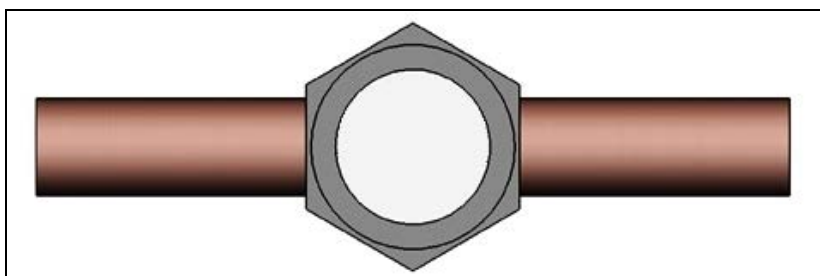

Figure 30. Clear-Inline Sight Glass
- A. **INLINE** sight glass is **CLEAR**: As illustrated in Figure 30, a clear sight glass means the refrigerant flow is liquid. Remove 1 pound of refrigerant from the system, wait 10 minutes, and observe again. Continue this until bubbles appear in the sight glass.